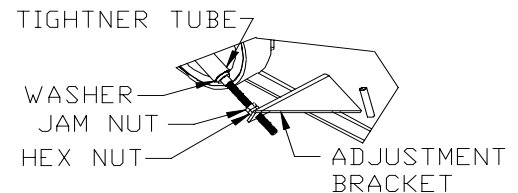

Figure 8
1. Loosen the jam nut on the inside of the adjustment bracket (welded to shredder body, figure 8).